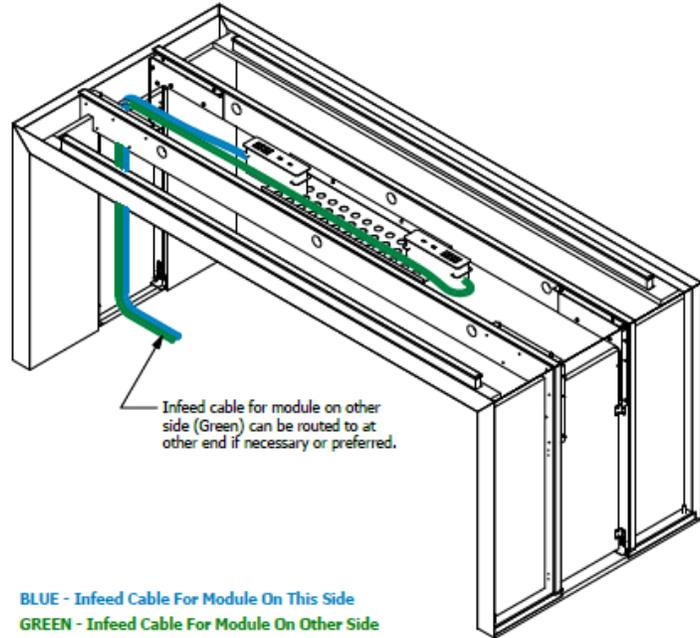

Fig. 13: Tabletop AC And USB-A\C 60W Cable Management
- 5.1.2 Cable management of Tabletop AC And USB-A\C 60W Charging, see Figure 13.